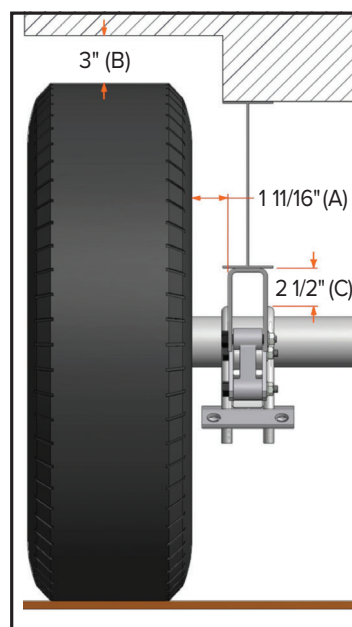

figure 5
(Your Dimension (B) from figure 5) – X must be a minimum of 3"
(Your Dimension (C) from figure 5) – X must be a minimum of 2 1/2"
(Your Dimension (B) from figure 5) + Y must be a minimum of 3"
(Your Dimension (C) from figure 5) + Y must be a minimum of 2 1/2"